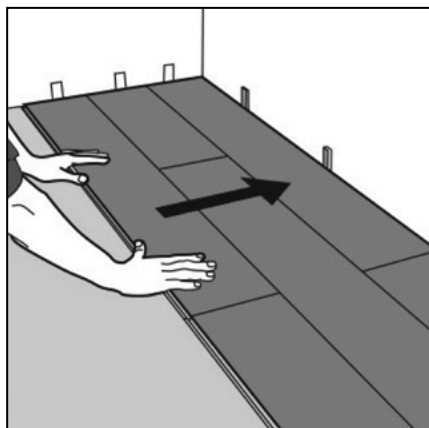

Figure 28 Remaining rows
- > Remember to place spacers to ensure the correct expansion gap has been left at the walls; (fig. 28 overleaf). Continue in this way to the last row.